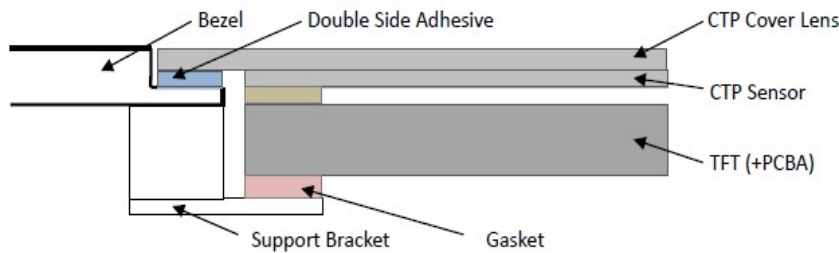

Figure 2
9.2 Surface Mounting (Figure 2)
9.2 嵌入安装（附图2）